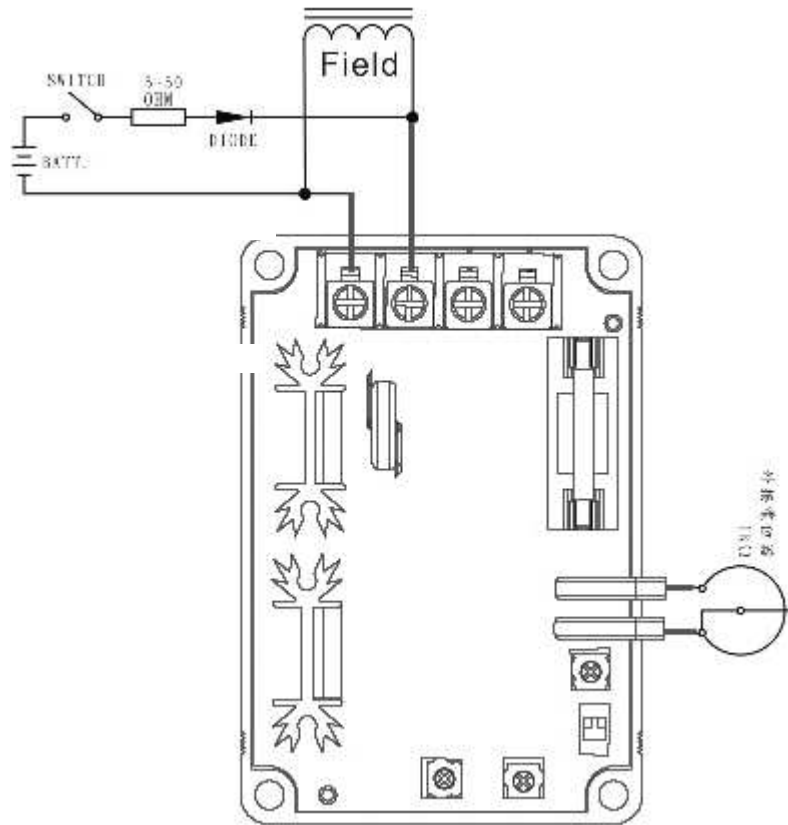

Figure 4 : Excitation
4.3.1 Disconnect AVR terminals (F+) and (F-), then use 3-12V DC (e.g. battery) as power source and connect the positive terminal to a current limiting resistor $5\sim 50\Omega / 30W$, then connect to the positive terminal of the Genset and negative to the negative terminal of the Genset. (Please refer to figure. 4) Power up for 3 seconds and then disconnect the power source. Remove the AVR power input and start the Genset. Wait until the rated idle speed, than measure the residual magnetic voltage.